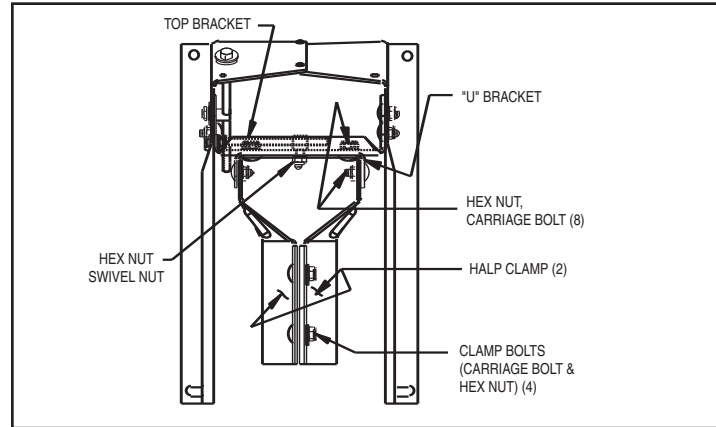

FIG. 1.0 - Model 611612001 AZ/EL w/Fine Tune Option
Loosen (8) Carriage Bolts and nuts securing the "U" Bracket to the Top Bracket and "U" Bracket to (2) half clamps and swivel nut, hex nut (for optional fine tune feature). (Ref. Fig. 1.0). Install AZ/EL Cap Mount onto Ground Pole. Equally tighten (4) Clamp Bolts so that Cap is held stationary on Ground Pole, but can be swiveled with slight pressure (approximately 2 ft-lbs (2.7 N-m)). Retighten and torque (4) Carriage Bolts and nuts securing "U" bracket to half clamps to 18 ft-lbs (24.4 N-m). Leave loose (4) Carriage Bolts and Swivel Nut, Hex Nuts, for fine tune option.